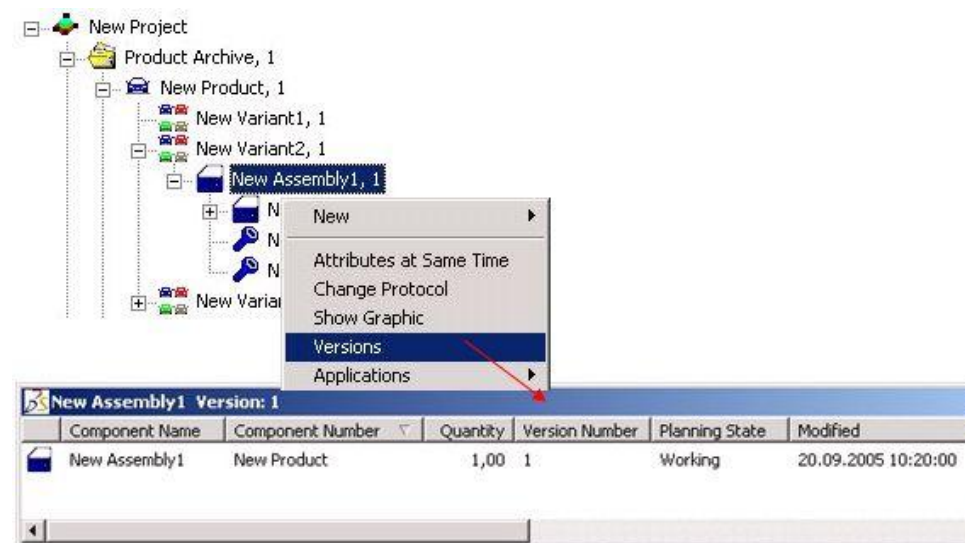

Figure 196: Calling the “Versions” Dialog
- The **Subassembly 1 Version: 1** list appears. This dialog lists all existing versions for this object (*Please refer to the Figure 196*).